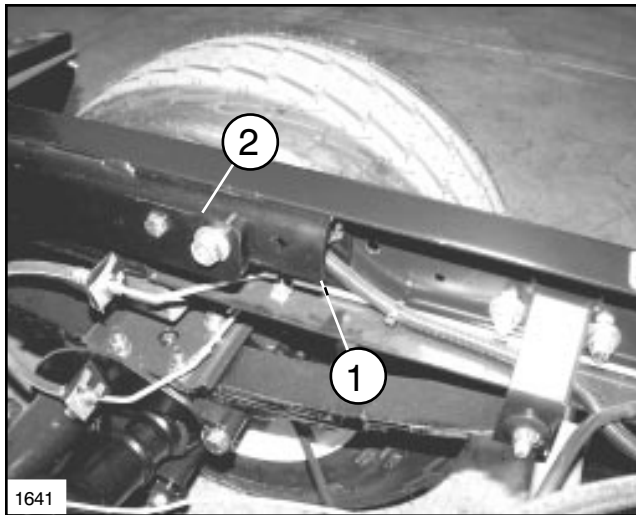

FIG. 1
1. The two (92-2700) Hitch Arm Brackets are to be installed on the Rear Channels of the Workman® unit. The short leg of Bracket (channel) should be at the top. See FIG. 1. Using four (two for each bracket) 3/8”-16 x 1” Lg. Flange Lock Hex. Hd. Cap Screws, mount Brackets to the Workman® unit’s channels. Tighten screws securely with four 3/8” Flange Lock Nuts.
2. Slide (99-0468) Bumper Assembly between Rear Channels of the Workman® unit. Mount (99-0468) Bumper Assembly to the (92-2700) Hitch Arm Brackets installed in Step 1. Using two (one for each side) 1/2”-13 x 1-1/2” Lg. Hex. Hd. Cap Screws, insert screws through the larger holes in Bumper and larger holes in Hitch Arm Bracket. Place a 1/2” Flange Lock Nut on each screw. Do not tighten screws completely at this time. Insert two (one on each bracket) 3/8”-16 x 1-1/2” Lg. Hex Hd. Cap Screws through the smaller holes in Bumper and smaller holes in Hitch Arm Bracket. Place a 3/8” Flange Lock Nut on each screw. Do not tighten screws completely at this time. See FIG. 1.